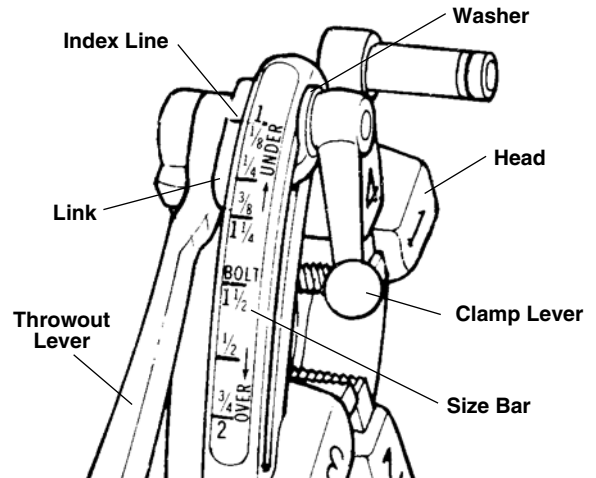

Figure 8 – 811-A Quick-Opening Die Head
6. Quick-Opening 811A Die Head (Figure 8) – When thread is completed, raise throwout lever to open position, retracting dies.
The 811-A Universal Die Head (*Figure 8*) for right-hand threads requires four sets of dies to thread pipe ranging from  $\frac{1}{8}$ " through  $1\frac{1}{2}$ ". One set of dies is required for each of the following pipe size ranges: ( $\frac{1}{8}$ "), ( $\frac{1}{4}$ " and  $\frac{3}{8}$ "), ( $\frac{1}{2}$ " and  $\frac{3}{4}$ "), and (1" through  $1\frac{1}{2}$ "). Bolt threading requires a separate set of dies for each bolt size.